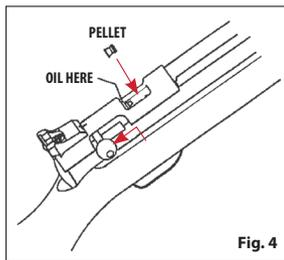

Fig. 4
3. Open the bolt by pushing the bolt handle up and pulling it all the way back until you hear two clicks and the bolt stays rearward. (Fig. 4)